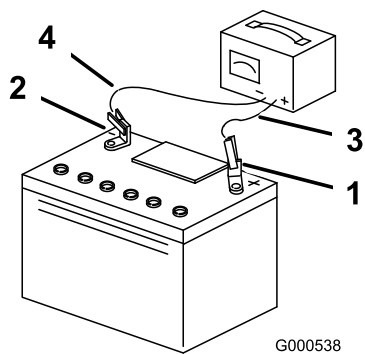

Figure 40
3. When the battery is fully charged, unplug the charger (not included) from the electrical outlet, then disconnect the charger leads from the battery posts (Figure 40).